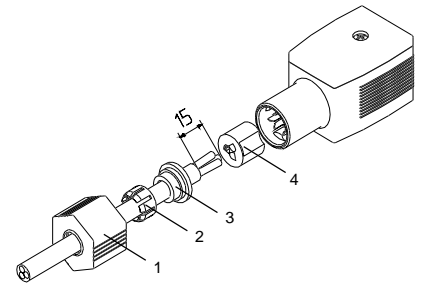

Figure 3: QUICKON Connection of the device socket
- Connect the round cable (2x 0.75 - 1.5 mm²) as shown in the connection diagram (Figure 3):
- Push on the coupling ring (1), the clamping sleeve (2) and the seal (3)
- Fit the splice ring (4); **ATTENTION:** Polarity: 1 = Bus+ 2 = Bus-